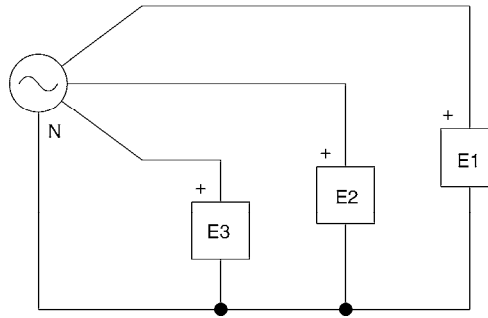

Figure 2-8. Phase angle measurement.
3. Set up the circuit shown in Figure 2-8. Connect inputs E1, E2, and E3 to measure the phase voltages of the Power Supply at 1-N, 2-N, and 3-N.